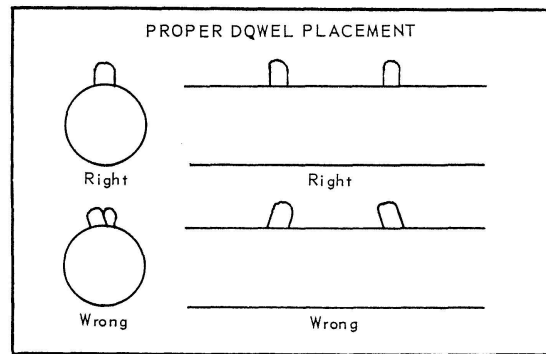

FIGURE 4
Step 9. Apply a coat of glue to the dowels near the ends and another coat of glue to the inside of holes in the airframe tube. Force each dowel into a hole carefully so that about $\frac{1}{4}$ " protrudes from the tube. Each pair of emplaced dowels should be carefully aligned so that the pods will be well aligned when attached. See figure 4.